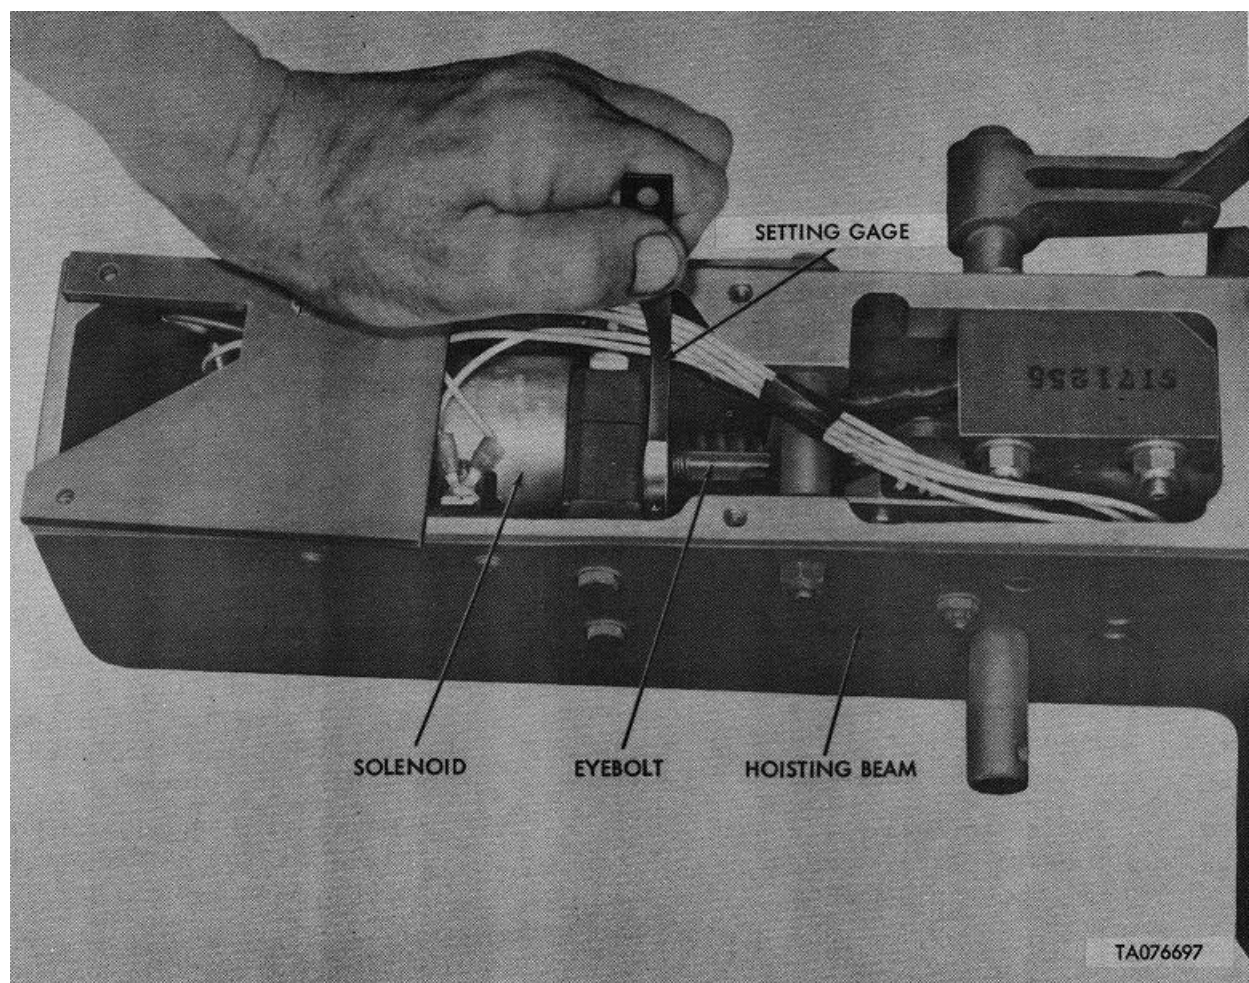

Figure 3-5. Latch and Release Mechanism Adjustment
With reference to figure 3-5, use setting gage, special tool (7, fig. 1-2), and adjust eyebolt (82) so the solenoid plunger rear surface aligns with gage when arm (79) is seated against lock (9) in locked position. Tighten setscrew (4) when correct adjustment is obtained.